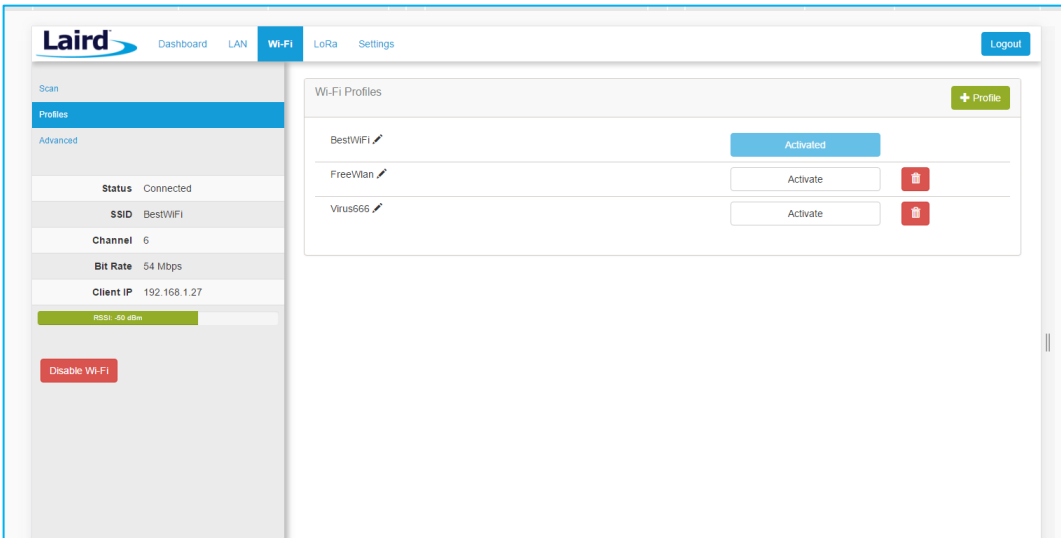

Figure 24: Wi-Fi profiles page
1. Click the **LAN** button in the main menu, then click the **Profiles** button in the left menu. This page is useful for adding a hidden Wi-Fi network that is not broadcasting its SSID (Figure 24).